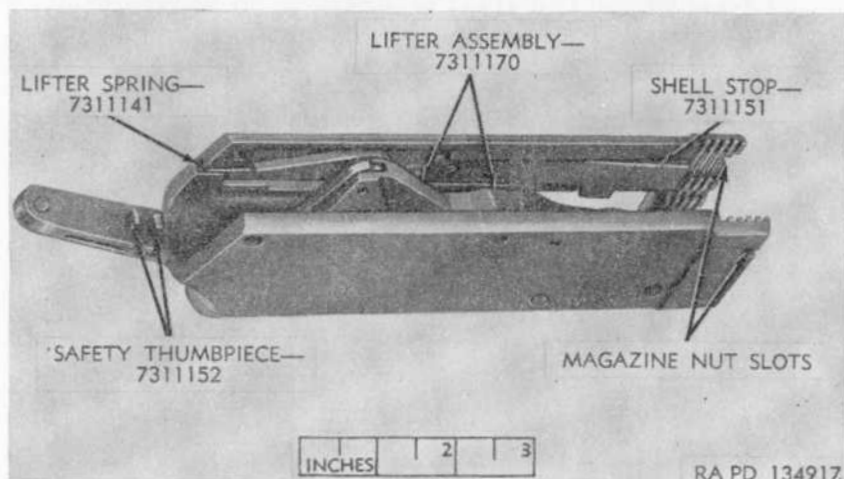

Figure 51. Receiver group for Stevens shotgun M520-30.
a. *Removal and Disassembly* (figs. 51 and 52 or 53 and 54).
- (1) Slide lifter assembly off its screw shoulder inside the receiver and remove from receiver.
- (2) Do not disassemble the lifter assembly unless part replacement is necessary. To disassemble, drift out the lifter pawl pin which is staked in the lifter. Remove the lifter, lifter pawl, lifter pawl plunger, and lifter pawl plunger spring and lifter screw.
- (3) On the Stevens shotgun M620A, slide the receiver extension from the extension slot in the upper rear of the receiver.
- (4) Unscrew the shell stop screw and remove the shell stop.
- (5) The lifter spring is anchored loosely by its pin on the end of the spring into the rear right of the receiver. Push spring out with a small drift.
- (6) Unscrew the ejector screw and remove the ejector.
- (7) On the Stevens shotgun M520-30, compress the safety thumbpiece plunger and spring in order to permit the safety thumbpiece to slide out of slot in receiver tang. Remove thumbpiece and pry out spring and plunger.
- (2) Remove foreign matter from shell seat of the lifter assembly, if lifter is unserviceable, replace lifter assembly (DEPOT MAINTENANCE ONLY).
- (3) If lifter pawl, pin, plunger, and spring are beyond repair, replace.
- (4) For the Stevens shotgun M620A only, if the receiver extension is unserviceable, replace.
- (5) For the Stevens shotgun M520-30 only, if the safety thumbpiece is beyond repair, replace.
- (6) For the Stevens shotgun M520-30 only, if safety thumbpiece plunger, spring, or stock tang screw is beyond repair, replace.
- (7) Remove foreign matter from the shell stop seat in the receiver, and if shell stop and screw are unserviceable, replace.
- (8) If ejector and ejector screw are unserviceable, replace.
- (9) If trigger guard screw and trigger guard pin are unserviceable, replace.
- (10) If lifter spring and lifter screw are beyond repair, replace.
- (11) If action stop screw is beyond repair, replace.
d. Assembly and Installation (figs. 51 and 52 or 53 and 54).
- (1) On the Stevens shotgun M520-30 only, insert and compress safety thumbpiece plunger spring and plunger to permit thumbpiece to enter slot in receiver projection. Slide thumbpiece in slot with finger grip forward and release spring and plunger to lock thumbpiece.
- (2) On the Stevens shotgun M620A only, insert the receiver extension, with clearance cut for the action bar facing to the left, into the extension slot in the upper rear of the receiver.
- (3) Seat ejector squarely in receiver groove, with the screw hole forward, and tighten ejector screw securely.
- (4) Insert and compress lifter pawl plunger and spring in hole in lifter, place lifter pawl in lifter slot until holes aline and, with plunger bearing against pawl point, insert pin and stake pin in place. Screw lifter screw in place in right side of receiver. Slide lifter assembly over lifter screw, with lifter pawl to the rear. Insert round end of lifter spring in hole in right rear of receiver, make certain remainder of spring nests in slot in receiver, and insert other end of spring under lifter tooth.
- (5) Seat shell stop squarely in receiver groove, with the screw hole to the rear, and screw shell stop screw in securely.